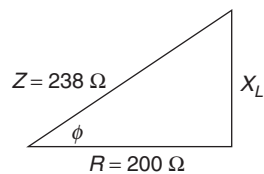

Fig. 35
22. Find ϕ and X_L in Figure 35.